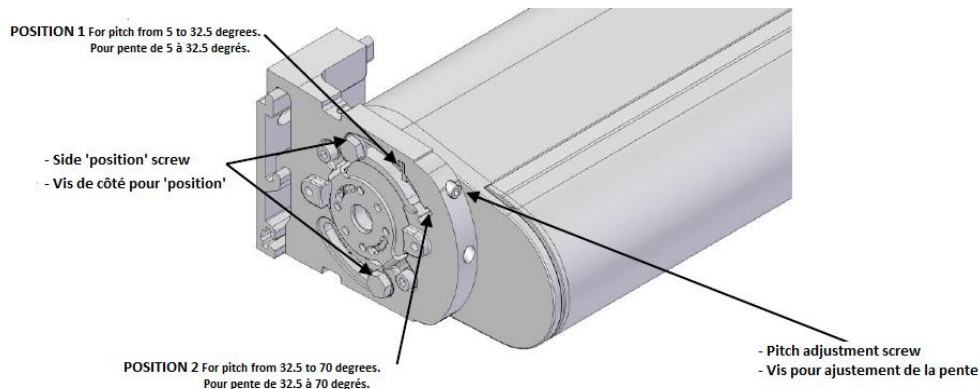

Figure 38
Remove the end caps, slightly loosen the two side 'position' screws (**figure 38**), have your helper lift the front bar several inches above the desired height, then rotate **clockwise** the Pitch adjustment screw (**Figure 38**) to adjust the inclination (one on each end of the Awning). Have your helper release the front bar to see if it reached the desired height.
If you have raised the front bar too high, simply turn set screw counterclockwise to lower the front bar. If the front bar is still not high enough, continue turning the pitch adjustment screw **clockwise** (**figure 38**).
Once you have set the arm at the desired height, with the help of your assistant, adjust the other arm the same way (with the pitch adjustment screw located at the other extremity). **Make sure that the front bar is leveled when seen from the front.** Re-tighten the two side 'position' screws and reinstall the end caps (**figure 38**).
To lower the front bar of the awning, remove the end caps, slightly loosen the two side 'position' screws, ask you assistant to raise the front bar many inches higher than it's actual position, then turn the pitch adjustment screw (one on each end of the Awning) **counterclockwise**, until you reach the desired height. If you have gone too far, simply turn the pitch adjustment screw **clockwise** to raise the front bar (have your helper to lift the front bar a little to take off the weight from the set screw). If the front bar is still not low enough continue turning the pitch adjustment screw **counterclockwise**. **See Figure 38.** Once you have set the arm at the desired height, adjust the other arm the same way (with the screw located at the other extremity). **Make sure that the front bar is level when seen from the front.** Re-tighten the two side 'position' screws and reinstall the end caps.
02. Then reconnect the AC supply to the motor, install the hand crank and turn it at least 6 complete turns and make certain to do this within 10 seconds, see figure 38.